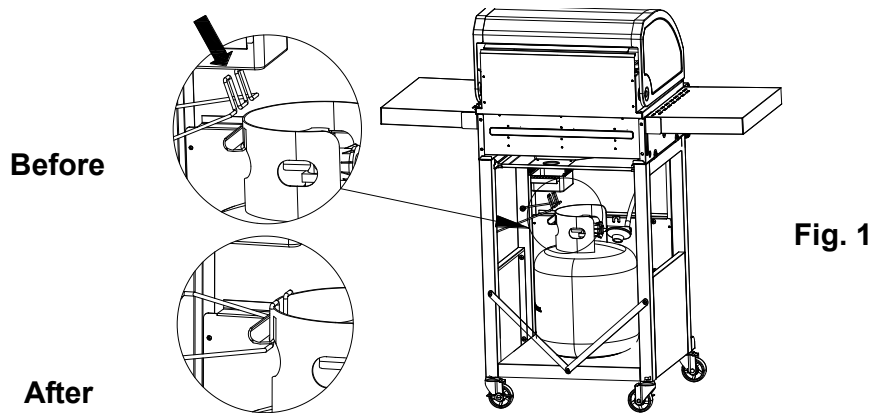

Fig. 1
1. Open the door, place a 20 lb. tank into the tank tray and put down gas cylinder hook onto the tank. See Fig. 1.